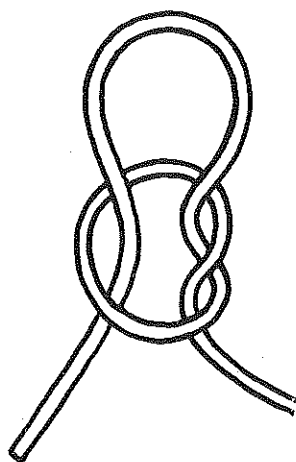

Fig. 3
C.3 Place the metal comb into **Groove I** of the side supports so that the flap of the comb and the red dot faces the machine. Starting on the left-hand side the wool is cast on the comb pins by means of a slip knot loop. (Figs. 3 & 4.)
C. Starting on the left hand side, the wool is cast on the comb pin by means of a slip-knot loop. (Figs. 3